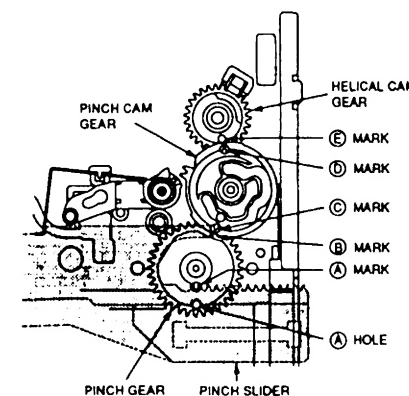

Fig 18.
- 1: Align the (A) hole on the PINCH SLIDER with the (A) mark on the PINCH GEAR through the hole on the chassis as shown in Fig 18.
- 2: Align the (B) mark on the PINCH GEAR with the (C) mark on the PINCH CAM GEAR and the (D) mark on the PINCH CAM GEAR with the (E) mark on the HELICAL CAM GEAR as shown in Fig 18.